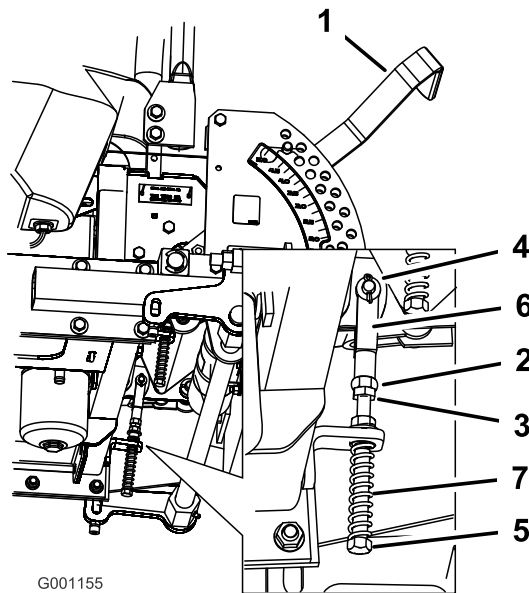

Figure 85
8. If adjustment is needed, loosen the nut and jam nut against the yoke (Figure 85).
9. Apply slight rearward pressure on the motion-control lever, turn the head of the adjustment bolt in the appropriate direction until the control lever is centered in the NEUTRAL-LOCK position (Figure 85).
10. Tighten the nut and jam nut (Figure 85).